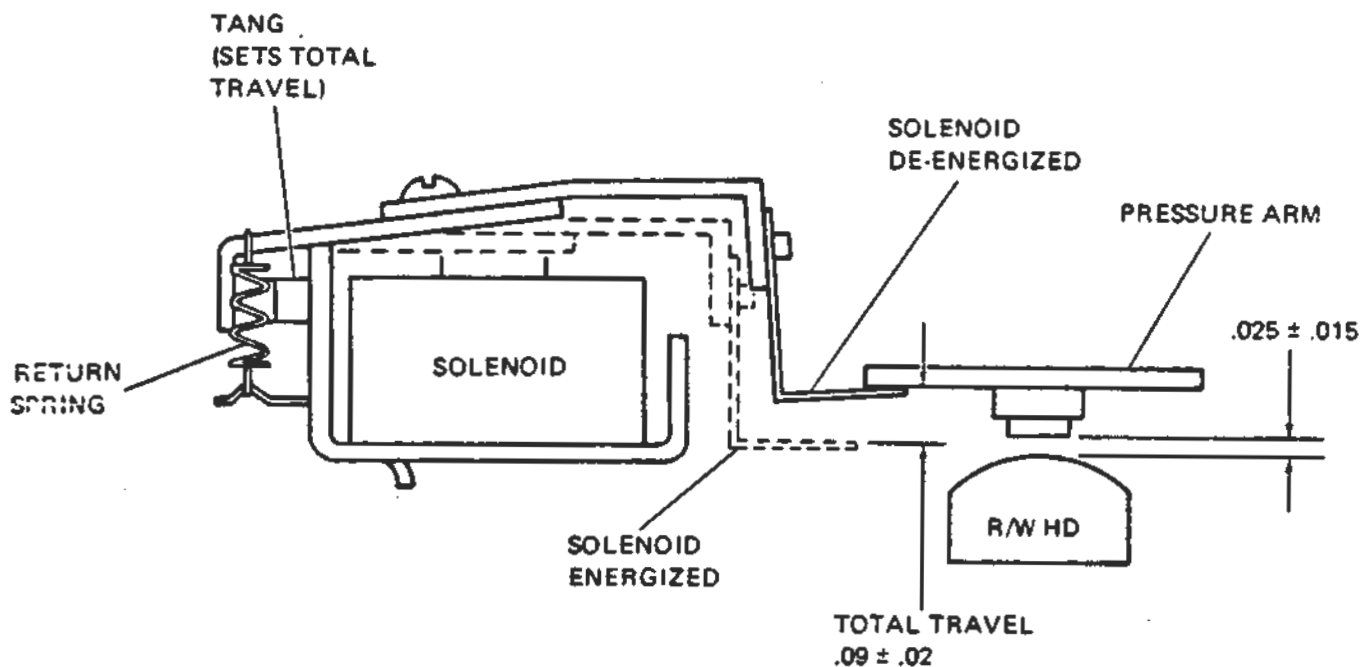

Figure 6-8 Head Load Check and Adjustment (Side Ø)
- d. The total displacement of the solenoid lifter paddle should be  $.09 \pm .02$  inches at the point where it contacts the pressure arm. (Figure 6-8)